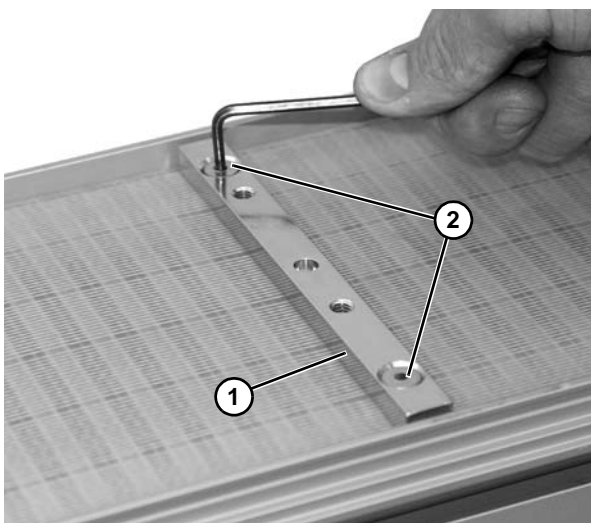

Figure 13
3. Install belt fixture (**Figure 13, item 1**).
4. Attach with M5 flat head screws (**Figure 13, item 2**). Tighten to 35 in-lb (4 Nm).